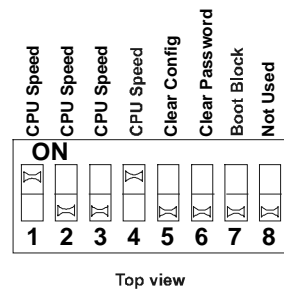

Figure 10-2. Resetting the Configuration Switches
6. Reset switch 5 from On (closed) to Off (open) on the system board's configuration switch block. See Figure 10-2.